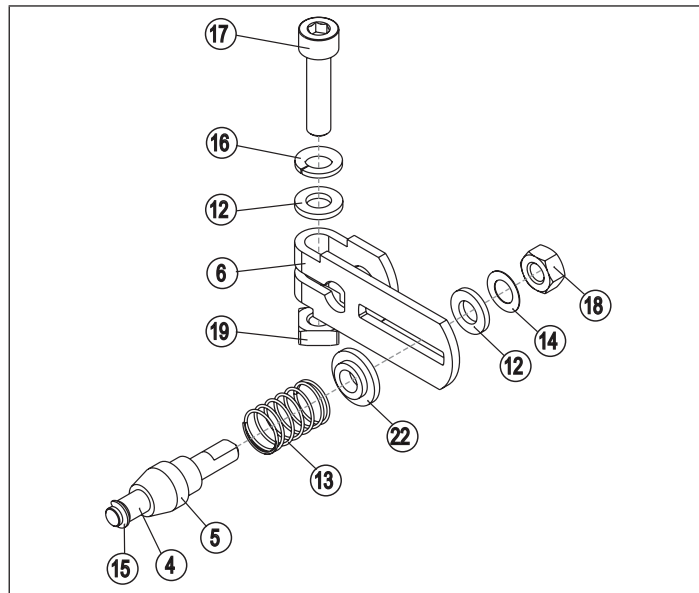

Fig. 7: Assembling the lever
- Assemble lever (if not pre-assembled) (see "Fig. 7").